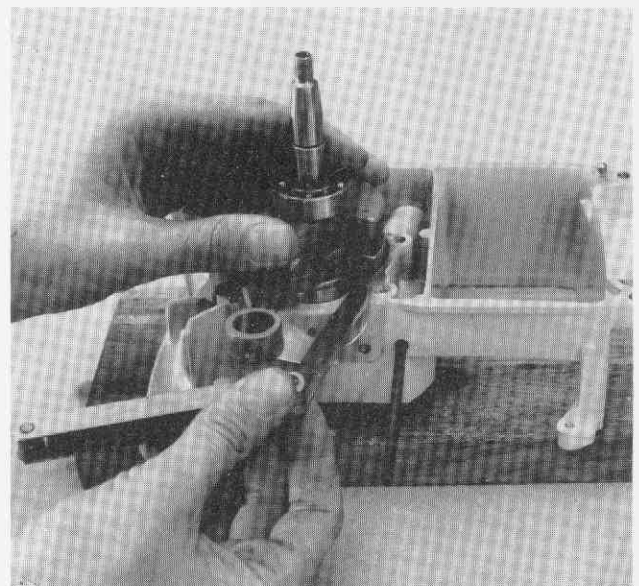

Fig. 24
- B. Heat up the bearing recess in the flywheel side crankcase half (to about 150°C). On pro saws 55–70 cc lay a 1 mm spacer between crankshaft and crankcase in connection with assembly. See fig. 24.